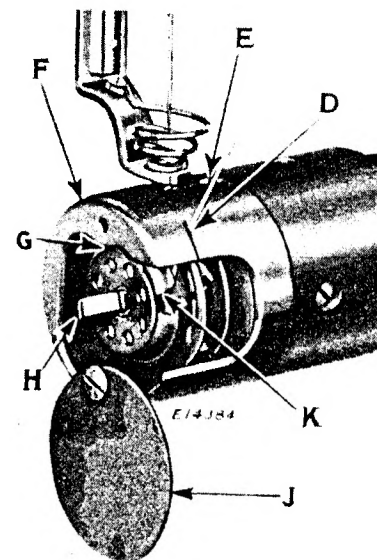
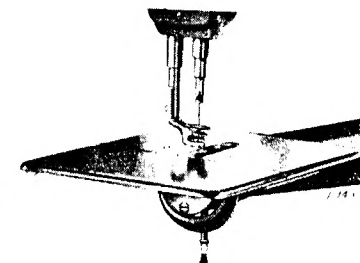
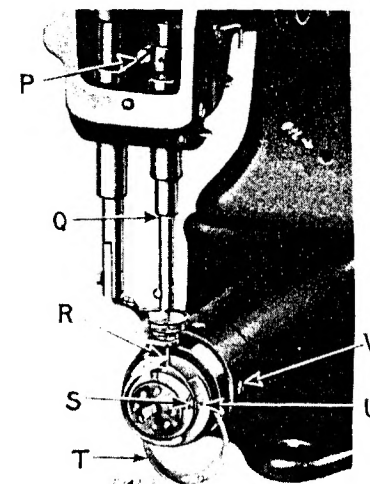
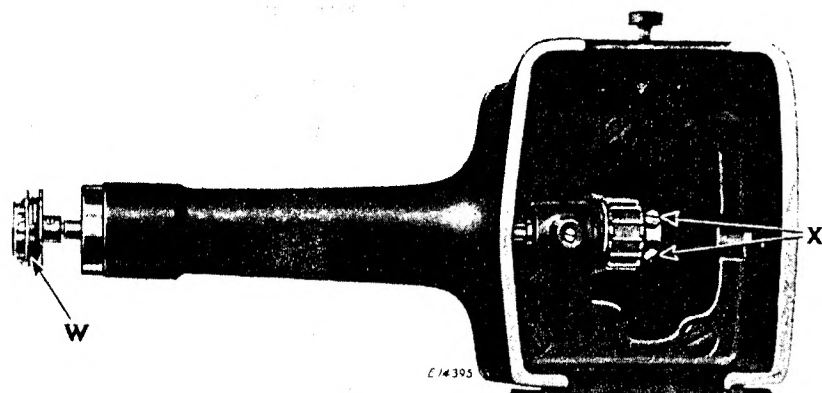

Fig. 6. Threading Bobbin Case
Fig. 14. Work Plate Attached to Machine
Fig. 17. Needle Bar and Hook Adjustments
Fig. 18. Removing the Hook
Open the cylinder end cover cap (J, Fig. 6) by pressing down with the thumb nail inserted in the slot. Open the in case latch (H, Fig. 6) and remove the bobbin.
guide it into the notch (K, Fig. 6), then close the latch (H); draw the thread up to the top of the slot (D, Fig. 6) and close the cap (J).
The tension on the under thread is regulated by the screw (S, Fig. 17) in the center of the tension spring on the outside of the
Draw toward you the cylinder end cover cap (J, Fig. 6) and slide the yoke of the work plate over the cylinder end, then tighten the thumb screw enough to hold the work plate as shown in Fig. 14.
TO SET THE NEEDLE BAR IN CORRECT TIME. Loosen the needle bar connecting stud pinch screw (P, Fig. 17) and place the needle bar in the proper position as directed above, then retighten the screw.
TO SET A NEEDLE BAR WHICH HAS NO MARK. Set the needle bar so that when it rises 3/32 inch from its lowest position and the point of the hook is at the center of the needle (see R, Fig. 17), the eye of the needle will be about 1/16 inch below the hook point.
Take out the screw (E, Fig. 6) and remove the cylinder end cover (F, Fig. 6). Turn the balance wheel toward you until the lower mark (Q, Fig. 17) across the needle bar, as it is going up, is just visible at the end of the bushing; now, if the needle bar and hook are in correct time the point of the hook will be at the center of the needle and about 1/16 inch above its eye (see R, Fig. 17).
Loosen the screws (X, Fig. 18) in the hook shaft connection belt pulley and turn the balance wheel toward you until the needle bar goes to its lowest position and upward until the lower mark (Q, Fig. 17) across the needle bar is just visible at the end of the bushing, then stop turning and hold the wheel firmly; with the left hand, turn the hook until the point (R, Fig. 17) is at the center of the needle — 1/16 inch above its eye — see that the end play to the shaft is almost eliminated, then retighten the pulley screws (X).
Loosen the screws (X, Fig. 18), remove the screw (E, Fig. 6) and the cylinder end cover (F), and draw out the hook and shaft (W, Fig. 18).
Loosen the set screws (X, Fig. 18) and the set screw (V, Fig. 17) that holds the bushing, and carefully drive the bushing to the right to set the hook closer to the needle, or to the left to set it farther from the needle. After carefully adjusting and timing the hook to the needle, tighten the screws (V, Fig. 17 and X, Fig. 18). Leave the least amount of end play possible to the shaft, for lubricating purposes.
To remove the bobbin case from the sewing hook to thoroughly clean the bobbin case, remove the screw (U, Fig. 17) and open the gib (T); turn the balance wheel until the point of the hook is toward you and remove the bobbin case. See that there is no lint or dirt under the tension spring.
When replacing the bobbin case in the sewing hook, have the position the same as when removing it. Be sure to have the notch at the top of the bobbin case (at G, Fig. 6) entered by the stop on the cylinder end cover, then close the gib (T, Fig. 17) and securely tighten the screw (U), being careful not to damage the head of the screw.